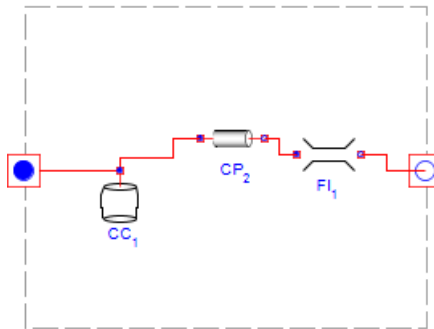

Figure 6.28: Discretized Pipeline Segment
Each subsystem consists of a compliant cylinder, a pipe, and a fluid inertia component as shown in **Figure 6.28**. A pipeline (of total length  $L$  and volume  $V$ ) with  $N$  segments has  $N + 1$  pipes, each with a length,
1. Build the model with the components and connections shown in **Figure 6.27** and **Figure 6.28**.